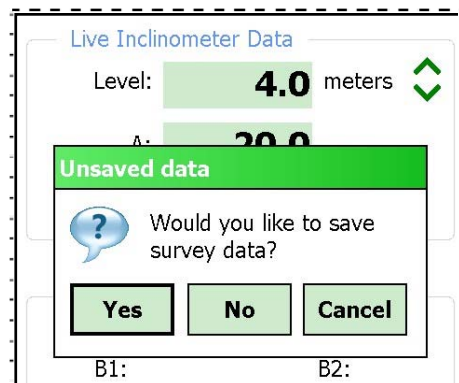

Figure 33 - Unsaved Data Prompt
- At any point you can scroll the ‘Level’ using the green up and down arrow buttons on the screen and view data stored and checksums (lower half of the screen). When done taking readings, tap “Menu” (lower-left corner of the screen), followed by “Exit Live Readings”. You will be given the option to save the readings to a file (see Figure 33).
10. When done taking readings, tap the “Menu” item (bottom-left corner of the screen), followed by “Exit Live Readings”. You will be given the option to save the readings to a file (see Figure 33).
11. Even if “No” (see Figure 33) is selected, the readings will be saved to a temporary file and can be restored the next time the Live Readings screen is entered.